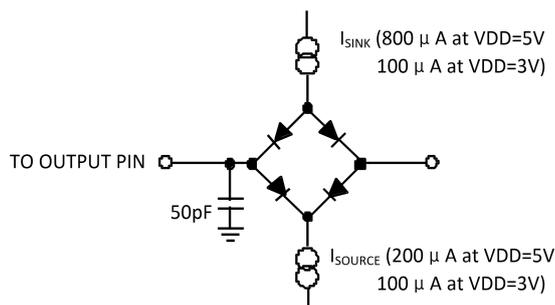

Figure 1. Load Circuit (excess time and bus release time)
5. These values are measured in load shown in Figure 1. It is defined that the time required for output crossing V_{OL} or V_{OH} .
6. These values are measured when data output is 0.5V (load situation is shown in Figure 1). Then backstep by measured data to remove the effect of charging and discharging 50pF capacitor. It indicates all time values in parameter table are real bus release time and are independent of external load capacitors.